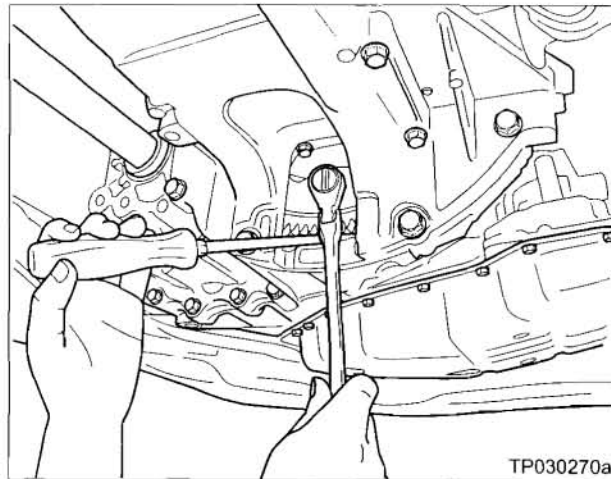

Figure F12
- Use a screwdriver to move the Torque Converter up or down to align the Torque Converter bolt holes with the Flex Plate bolt holes (see Figure F12).